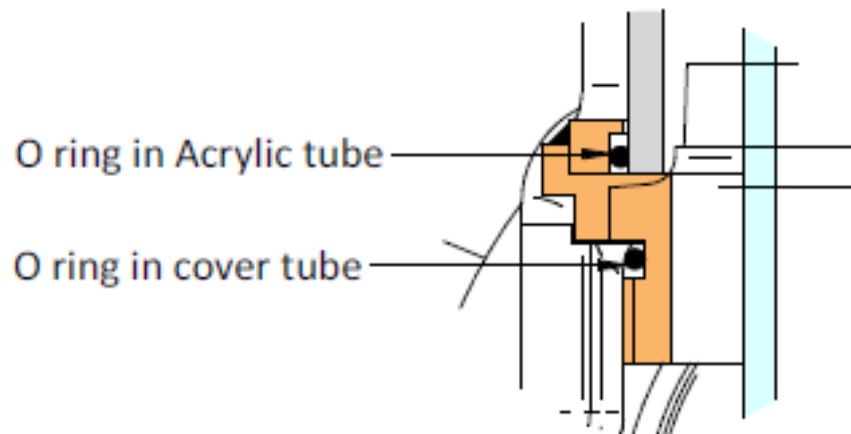

Figure 5
10. After placing the indicating cylinder, the rising pin (2) shall be assembled into the tap provided in the connecting rod (11) by using Cap screw (3)
11. Sticker with markings shall be pasted on indicating cylinder, for pasting the sticker it is very important that initial marking "0" Shall be above the starting point of acrylic tube (9), for that it is better to paste the sticker 5mm below from top of indicating cylinder as shown in fig 4 and fig 5.
12. Top portion of Sticker (fig 4) shall be pasted in location marked as top portion of sticker in fig 5 (i.e. leaving 5mm gap from top)
13. After pasting the sticker, the adjusting pin (4) shall be assembled. The pin has been given as a separate component for calibrating purpose.